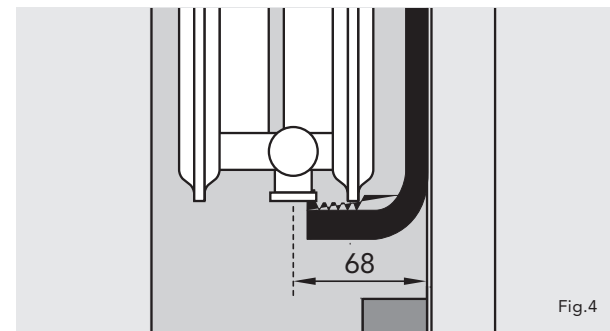

Fig.4
- Place the radiator on BOTH lower 'J' brackets as shown in Fig. 4. Be careful to centre it correctly between the two 'J' brackets.
- Note: The radiator connections are offset. Please ensure the connections are closer to the wall as shown in Fig. 4.